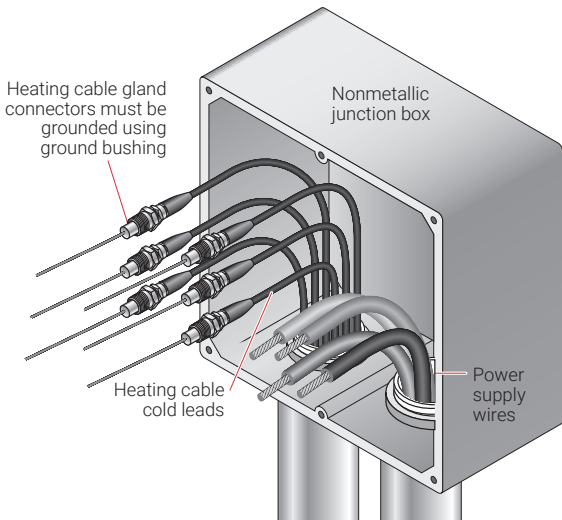
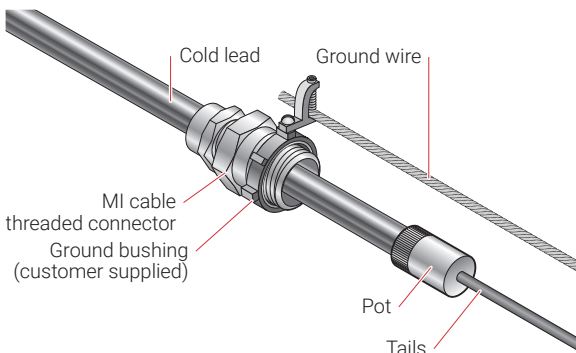
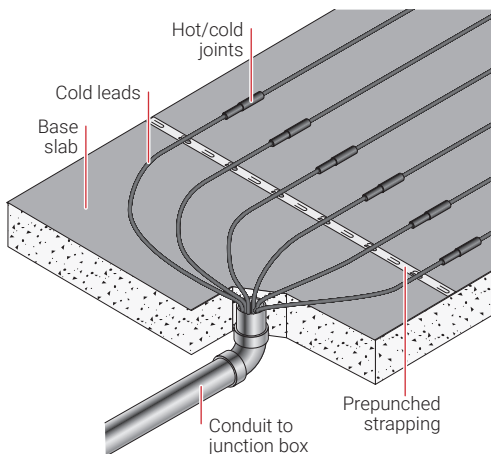

Figure 31: Nonmetallic junction box mounted on wall
Figure 32: Using ground bushing to ground heating cable sheath
Figure 34: Typical cold lead installation
In Figure 31, six cold leads (from three Design B/SUB heating cables), to be connected in a three-phase Delta configuration, enter the nonmetallic junction box through the large conduit. The conduit may be run underground from the base slab to the junction box as shown in Figure 34. The power supply conductors and the ground conductor enter through the other conduit.
When entering a nonmetallic junction box as shown in Figure 31, the copper sheaths of the heating cables must be grounded by: 1) tightening the gland connectors on to the cable sheaths to the recommended torque, and 2) screwing a ground bushing on to each gland connector (Figure 32) and ensuring that the ground wire from each ground bushing is properly bonded to ground per national and local electrical codes.
**Important:** Ensure that all heating cables are properly grounded. This can be accomplished by tightening the gland connectors on to the cable sheaths to the recommended torque, and then screwing a ground bushing on to each gland connector (see Figure 32). Ensure that the ground wire from each gland connector is properly bonded to ground per national and local electrical codes.
In many cases, it may be desirable to run the cold leads through buried conduit directly to the junction box as shown in Figure 34. The cold leads can then be terminated in a nonmetallic junction box as shown in Figure 31 and the heating cable sheaths grounded as shown in Figure 32.